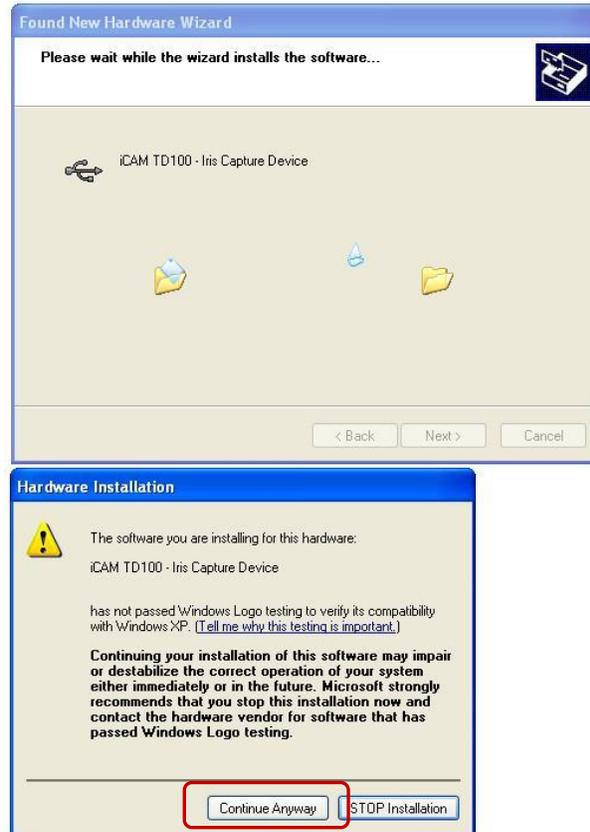

Fig. 15
10. Select > “Continue Anyway” if an attention box indicating that the “iCAM TD100 – Iris Capture Device has not passed windows Logo testing to verify...” to continue installing driver files as shown in Figure 15.